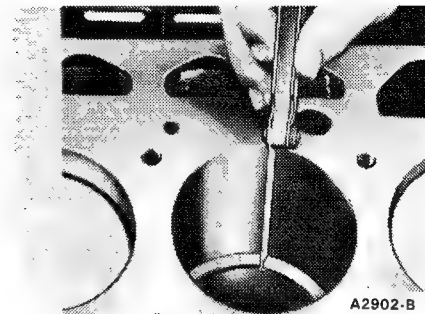

FIG. 18 Checking Piston Ring Gap
5. Measure the gap between the ends of the ring with a feeler gauge (Figure 18). If the ring gap is less or greater than the specified limits, try another ring set.